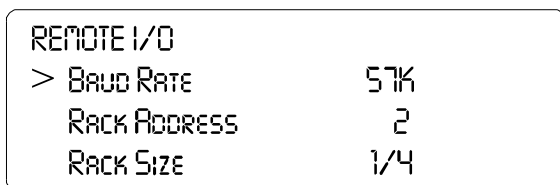

FIG. 10: REMOTE I/O MENU/SETTING PARAMETERS
- Step 5. Press the Enter button. The Remote I/O Menu appears. (See Fig. 10)